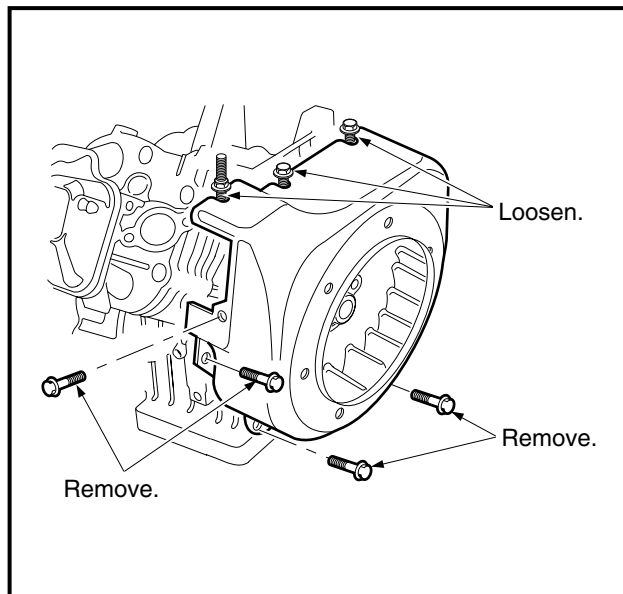

Figure 2-55 Flywheel Housing
1. Loosen three screws and remove the remaining four screws attaching the flywheel housing, then remove the housing (**Figure 2-55, Page 2-27**).